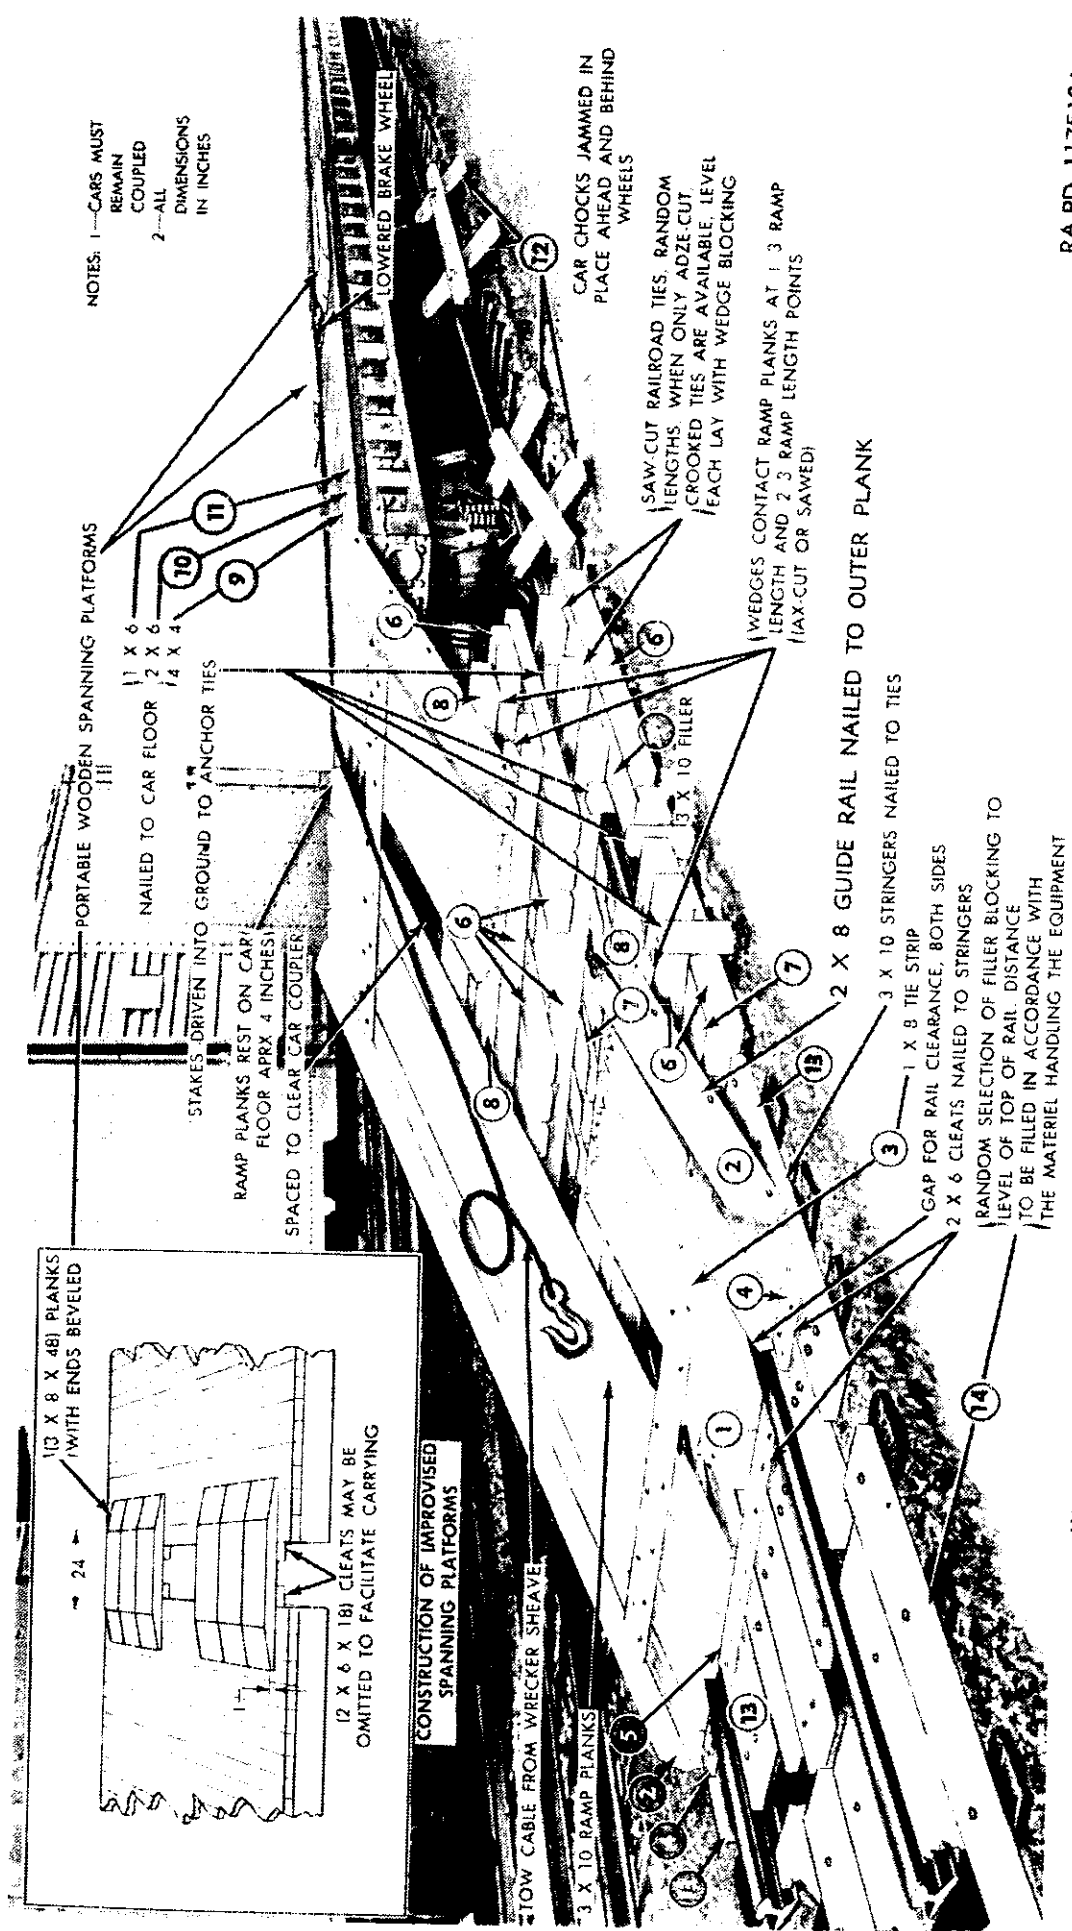

Figure 105. Construction of improvised loading ramp and spanning platforms.
- (b) When the vehicles must be loaded from ground level, a ramp may be improvised ((4) below) by borrowing railroad ties normally found stacked in railroad yards and by procuring necessary planking. An ideal end ramp is shown in place in figure 105. The bill of materials for constructing this ramp is shown in figure 106.
- (d) Steel or wooden spanning platforms or bridges are used to cover the gaps between cars. Flatcar brake wheels must first be lowered to floor level to permit passage. A pair of improvised spanning platforms is shown in the insert in figure 105. These spanning platforms are moved along the train by hand as the vehicle advances.
place. Steel plates or spanning platforms must be used to bridge the gap between platform and car (fig. 105).
- (a) A ramp for end-loading of vehicles on open-top freight cars may be improvised when no permanent ramps or hoisting facilities are available. An ideal ramp suitable for the loading of most ordnance items is shown in figure 105. Length of planking must be determined with consideration to under-chassis clearance, in order to clear the hump at upper end of ramp.